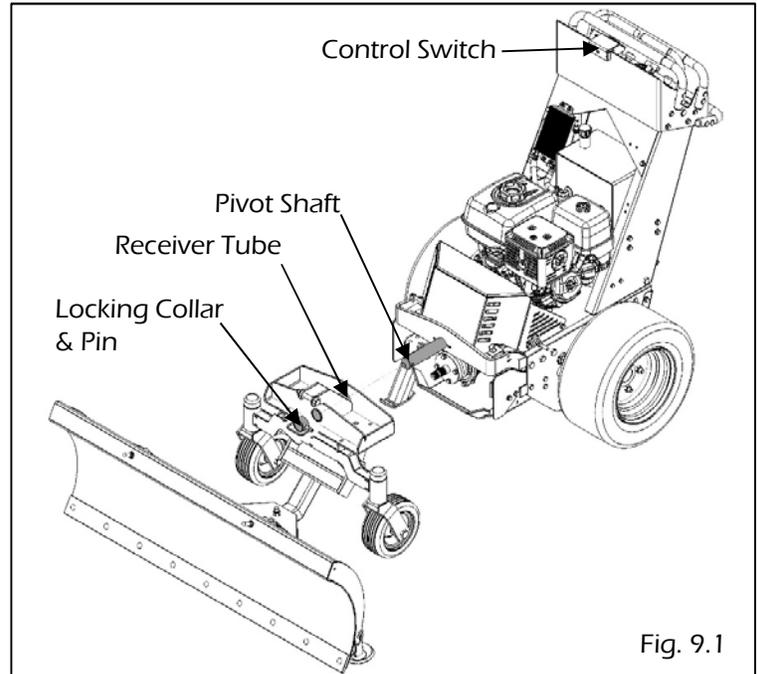

Fig. 9.1
2. Once the pivot shaft and receiver tube are fully engaged, secure the attachment by installing the locking collar and pin onto the pivot shaft. (See FIG. 9.1)